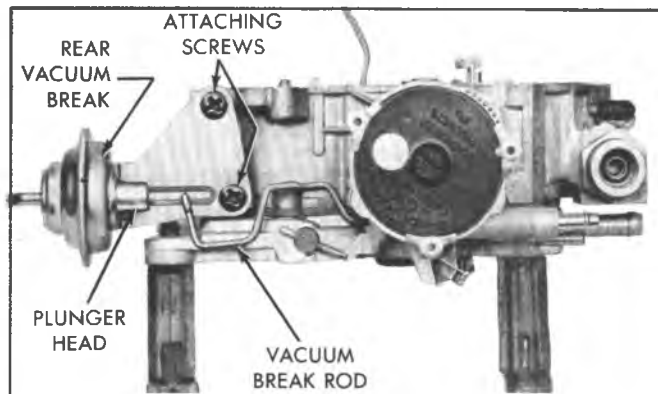

Fig. 6C4-38--Rear Vacuum Break-Typical
3. Remove secondary throttle valve lock-out lever from float bowl. (Fig. 6C4-41).